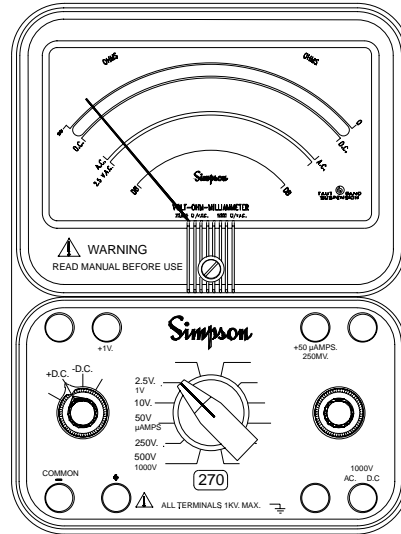

Figure 4-1. Jacks and Switch Positions for Measuring DC Voltages
- a. Set the function switch at +DC (Figure 4-1).
- a. Set the function switch at + DC (Figure 4-1).